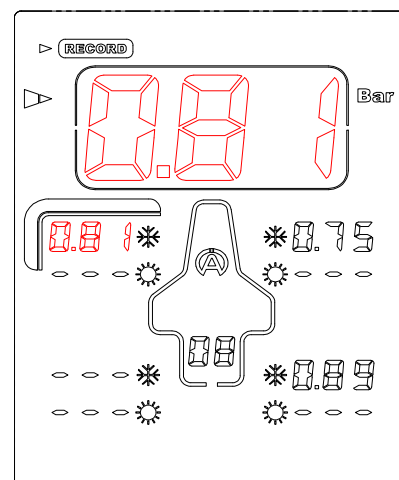

Figure 5
- 6) Press the central button  to record the measured pressure and prepare the Tyrecontrol on the next point of capture (*Figure 5*).